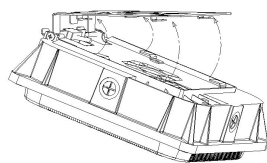

Figure 7
- Rotate the luminaire body up towards the mounting plate, and slide the mounting plate hooks into the slots on the luminaire body. Then, slide the luminaire body away from screw A to securely engage the mounting plate hooks in the slots. See Figure 7